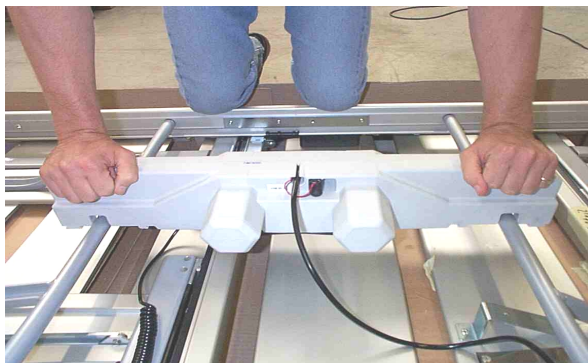

Figure 14
- Now press the OKIMAT casing down on to the rotating shafts firmly until you feel it click securely into position (see Figure 14)